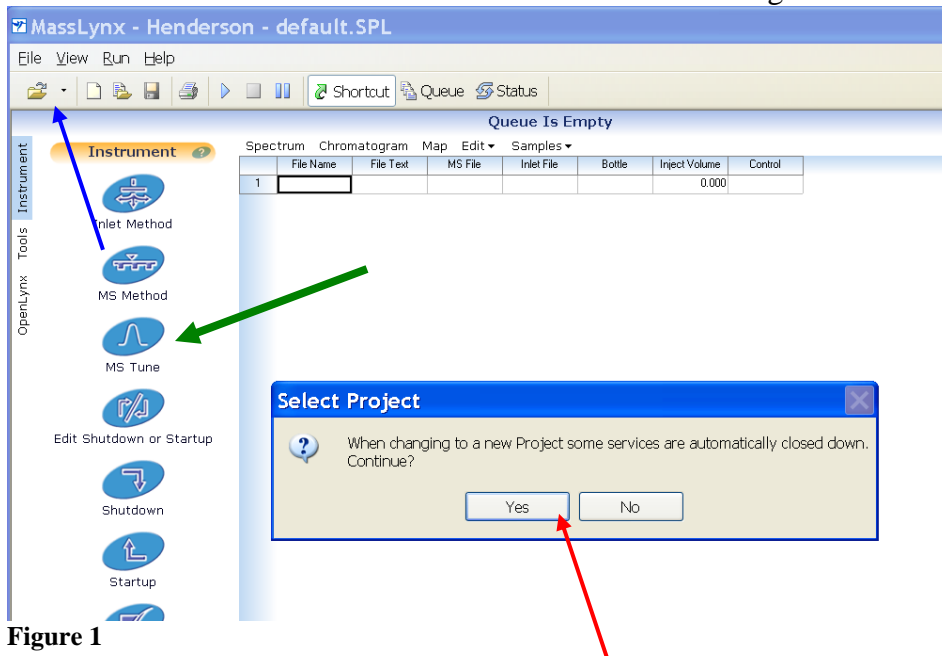

Figure 1
2. The first thing you must do is open your own project. This is done by clicking on the “open file” button from the Masslynx screen (blue arrow, Figure 1). When the option to automatically close down some services pops up, choose YES (red arrow).